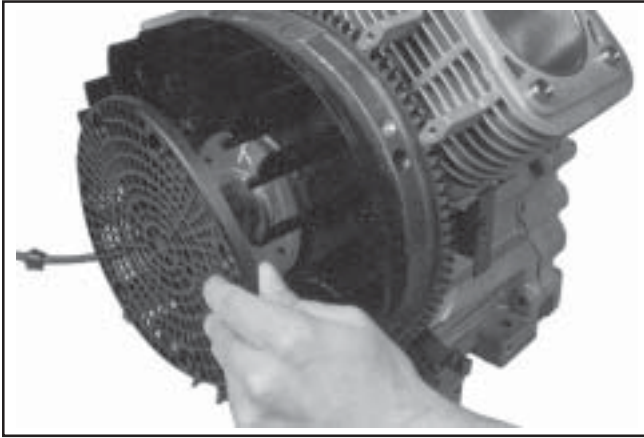

Figure 9-60. Removing Plastic Type Grass Screen.
1. Small metal retainers are typically attached on three of the seven mounting posts for positive retention of the plastic grass screen. Use a hook-end tool next to the post and pull outward to separate each of the small metal retainers. Then unsnap the fan from the remaining mounting posts. See Figure 9-60.